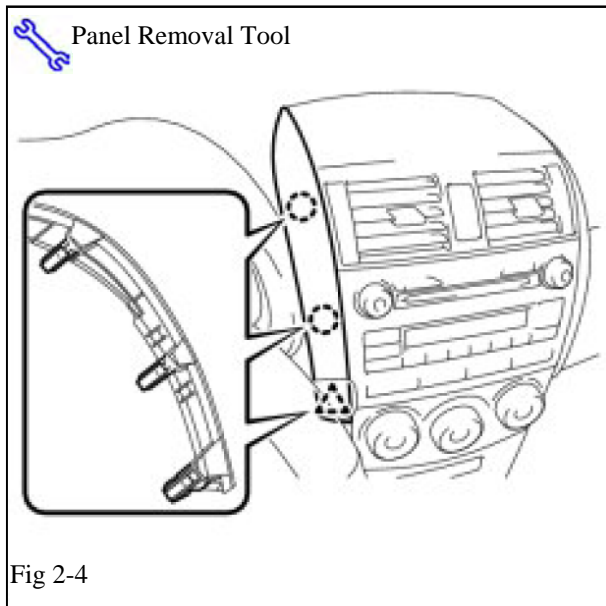

Fig 2-4
(4) Disengage the two (2) claws and clip, and remove the console side garnish end LH. (Fig. 2-4)